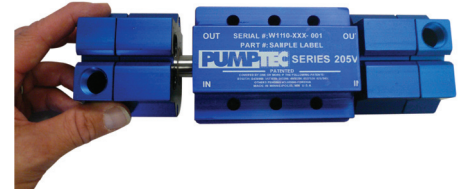

Figure 9
10. Hold head and stuffing box assembly and slide onto plunger at one end. Plunger may require to be held in place. Repeat with other head and stuffing box. Center plunger slot in crankcase when finished. Figure 9, on shows putting head and stuffing box assemblies on plunger.